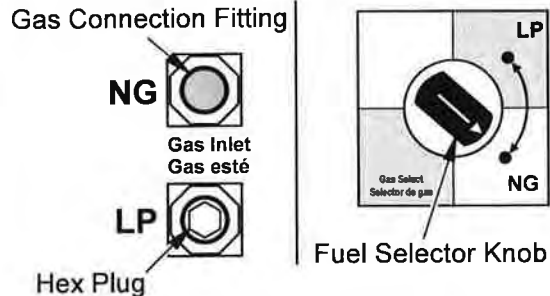

Figure 5 - Settings for Natural Gas Selection
2. For NATURAL GAS, press in knob using a flat screwdriver with a blade with thickness of a quarter and turn knob clockwise until the knob locks into the NG position (see Figure 5). Fuel selection device
4. Remove hex plug (with wrench provided) from natural gas inlet of regulator (see Figure 5). Install gas line into NG inlet of regulator. Use thread sealant to assure there are no leaks.